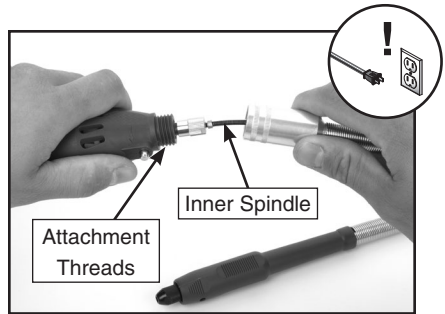

Figure 6. Example of inserting spindle into rotary tool collet with attachment threads exposed.
2. Loosen collet nut and remove plastic locking ring on rotary tool (see **Figure 1** on **Page 5**) to expose shaft attachment threads, as shown in **Figure 6**.
3. Pull inner spindle partially out of flex shaft (see **Figure 6**).